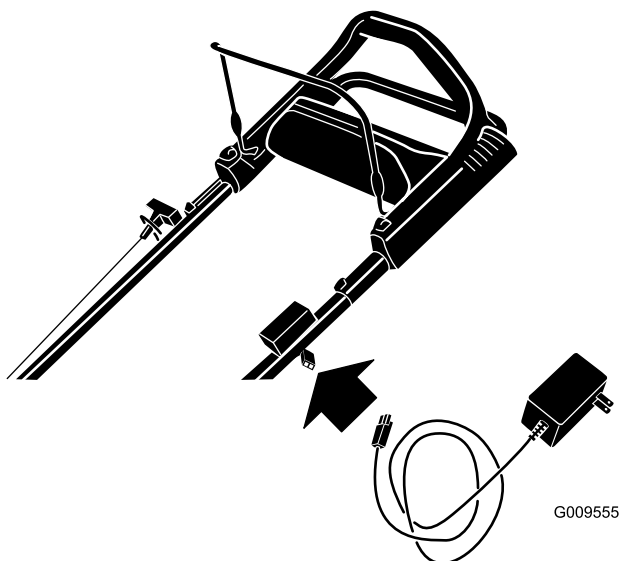

Figure 26
1. Connect the charger to the wiring harness located below the ignition key (Figure 26).